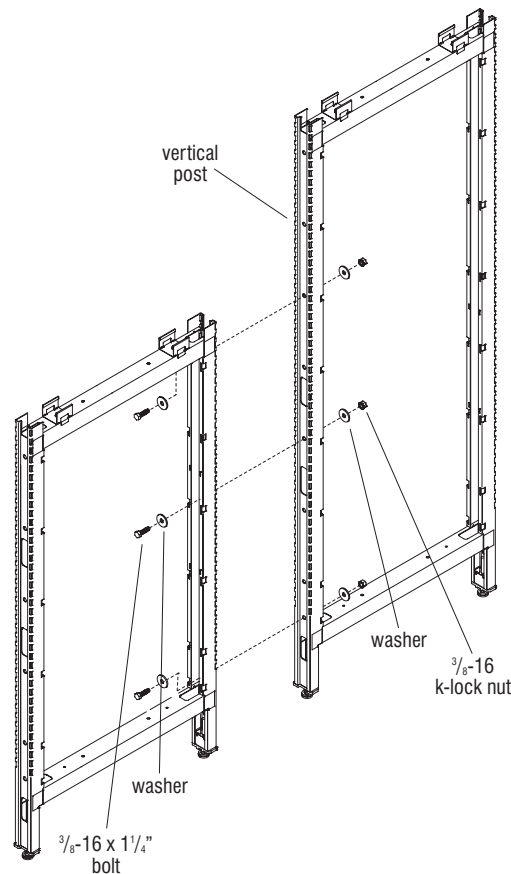

Figure 12 - In-Line Panel Frame Assembly
1. Stand frames next to each other and align mounting holes of both vertical posts. Place a large flat washer on each of three  $\frac{3}{8}$ -16 x  $1\frac{1}{4}$ " hex head bolts, and insert the bolt with washer through both frames to be connected. **Note:** Install one bolt through the lowest mounting hole of the pair of frames, one bolt through the highest mounting hole of the shortest frame (if one frame is taller than the other) and one bolt through the mounting hole roughly at 30" from the floor, near beltway height. At the thread end of each bolt, add a large flat washer and loosely install a  $\frac{3}{8}$ -16 k-lock nut (Figure 12).
2. Tighten all hardware, then level the panels, twisting the height-adjustable glides in or out (Figure 12).